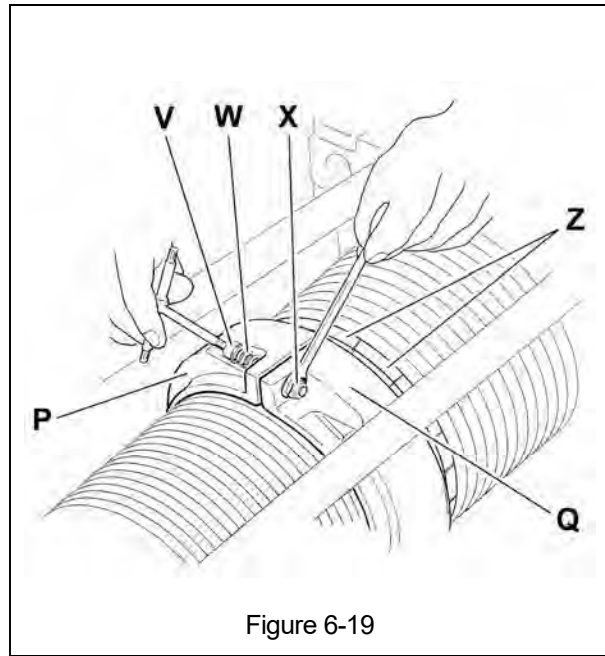

Figure 6-19
- 13) Unscrew the Nuts (X) remove the Screws (V) and the Springs (W) from the Rope Guide Ring Halves (P and Q), then remove the Ring Half (Q) (see Figure 6-19).